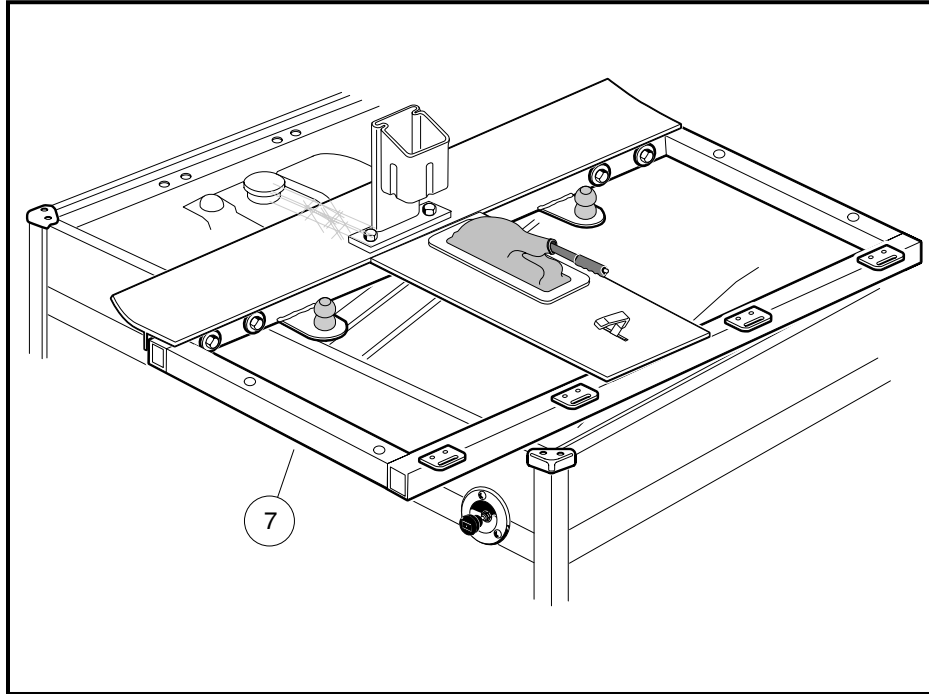

Figure 12b-32 Battery Removal
7. Carefully lift and rotate the seat support (7) 90° counterclockwise and allow it to rest on the vehicle body as illustrated (**Figure 12b-32, Page 12b-35**).
3. Connect the battery cables, positive (+) cable first, and tighten the terminals to 20 ft-lb (27.1 N·m) (**Figure 12b-1, Page 12b-2**). Coat terminals with Battery Terminal Protector Spray (CCI P/N 1014305).